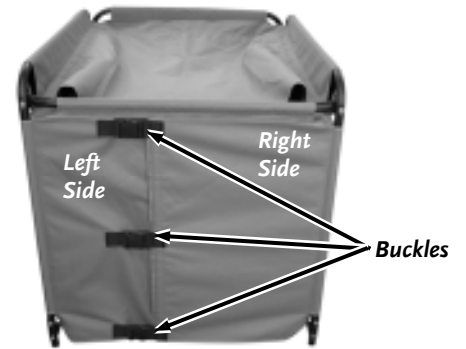

Figure 83
1. Unlatch the Buckles that secure the left and right side Doors (**Figure 83**).